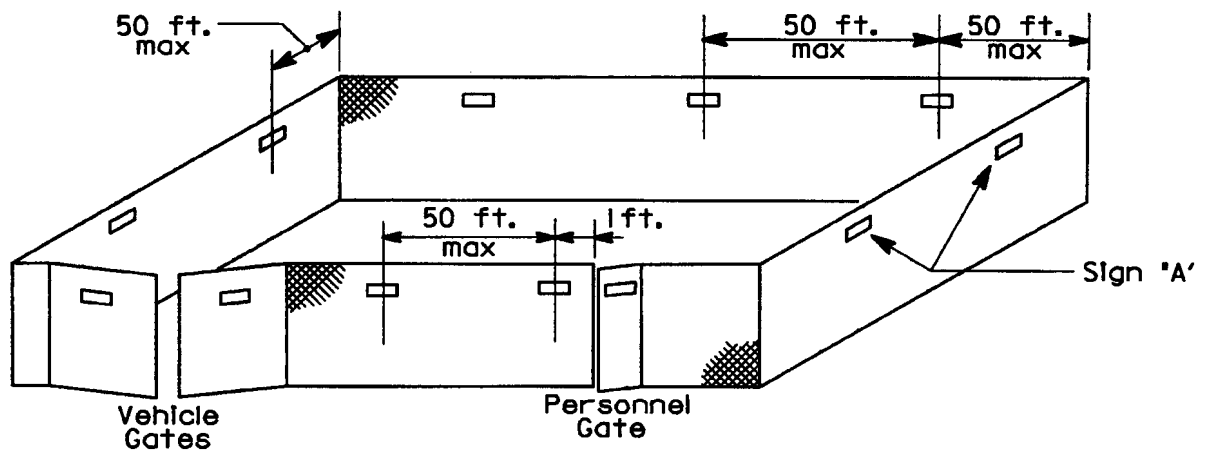

Figure 15
6. Refer to Figure 15 for fastening detail.